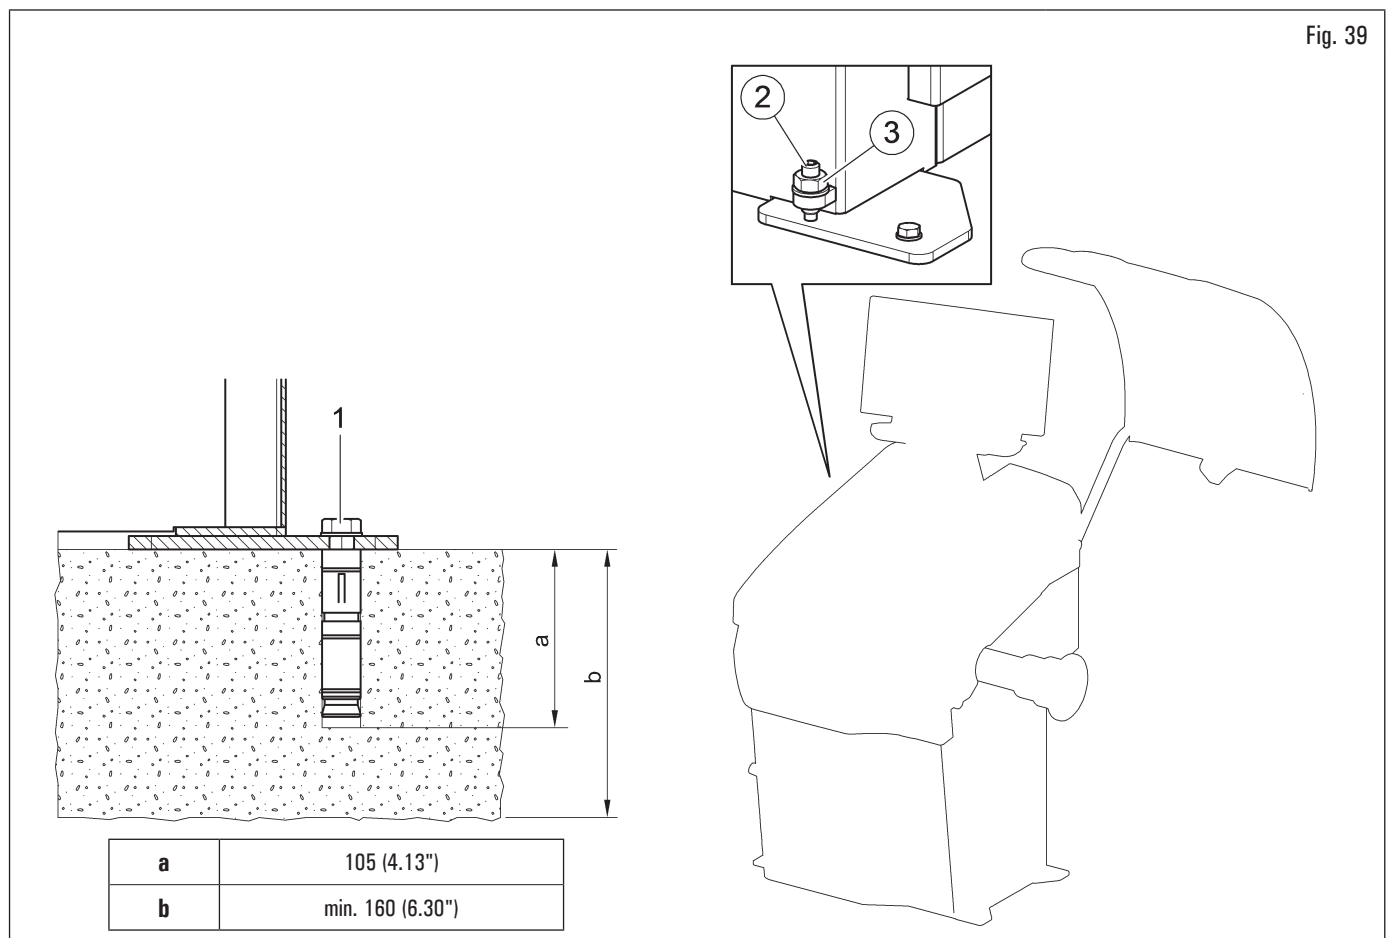

Fig. 39
The packed equipment is secured to the support pallet through the holes on the frame and indicated in the figure below. These holes can be used to secure the equipment to the floor, using suitable concrete anchors (not included). Before concrete anchoring to floor, check that all the anchor points are flat, or level in contact with the floor. If not, shim between the equipment and the floor, as indicated in Fig. 39.
After checking that the wheel balancer is correctly levelled, tighten the nut (Fig. 39 ref. 3) while holding the bolt (Fig. 39 ref. 2) still with the appropriate wrench.
- To secure the equipment to the floor, use anchoring bolts/studs (Fig. 39 ref. 1) with a threaded shank M8 (UNC 5/16) suitable for the floor on which the wheel balancer will be secured and in a number equal to the number of mounting holes on the bottom frame;